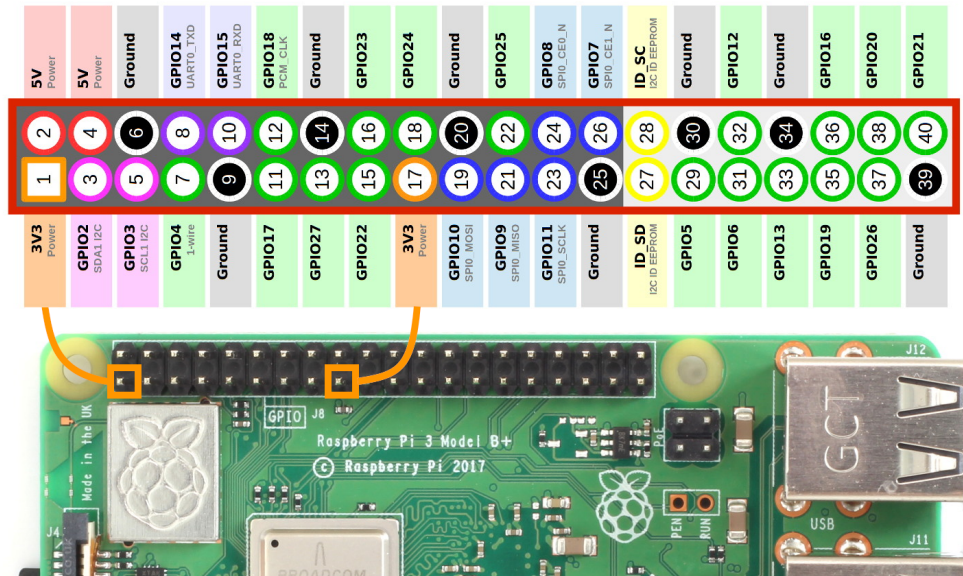

Figure 3: GPIO pins on a Raspberry Pi.²
The Python script that will be running inside the Raspberry Pi is responsible for controlling the external components by utilizing the GPIO pins on the Pi. Depending on the model, the GPIO header includes 26 or 40 pins. The Raspberry Pi 3 Model B includes 40 pins and the layout of them can be seen in Figure 3. In this figure, the pins that are marked green are the ones that can be used for general input and output interactions. The rest of the pins have special purposes (see <https://projects.raspberrypi.org/en/projects/physical-computing/1>).
2. To control the LED through a Python script, let's move it to a general-purpose GPIO pin (pins marked in green on Figure 3). For this purpose, disconnect the pin that is connected to power and connect it to a GPIO pin of your choice. Make sure to note down the pin number as you will need it in your Python script. Once you move it, the LED will no longer be lit up.